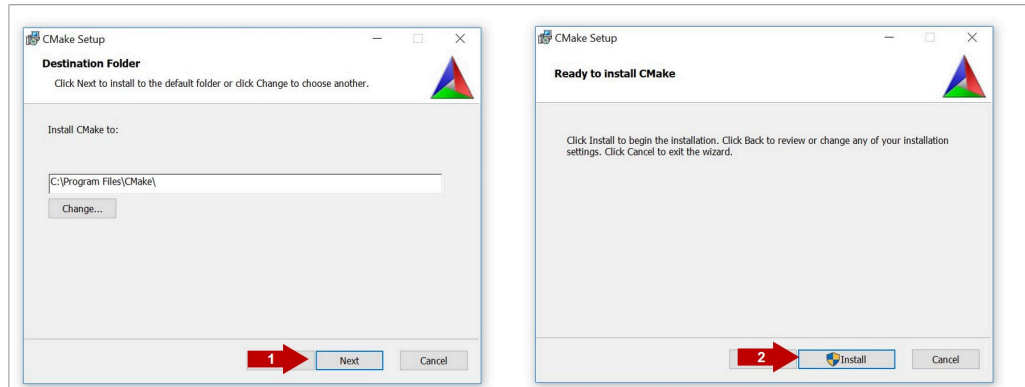

Figure 70. Install CMake
7. Select a destination folder, (1) click **Next** and then (2) click **Install** as shown in Figure 70: